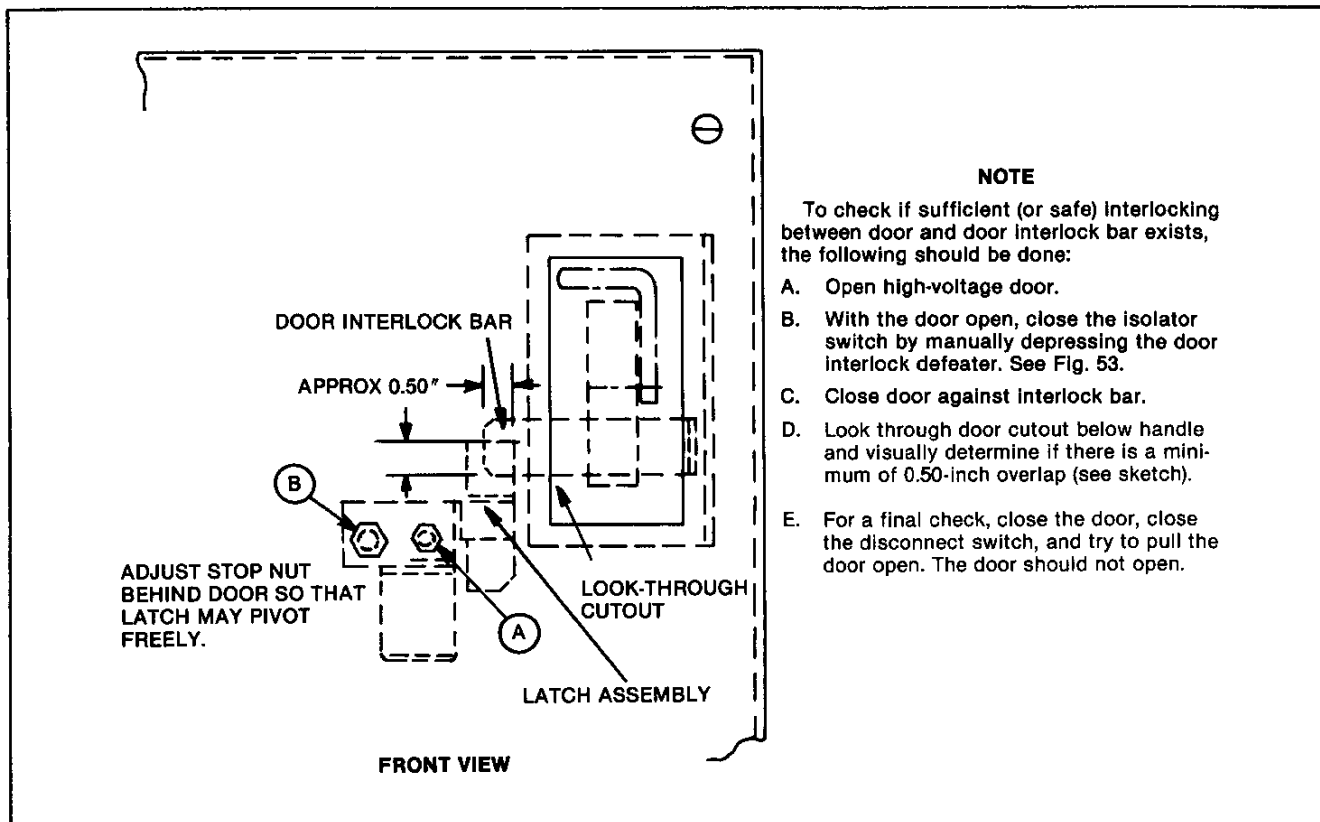

Figure 56. Checking procedures for mechanical door interlock.
1. Check door mechanical interlock for proper interference. See Figure 56.